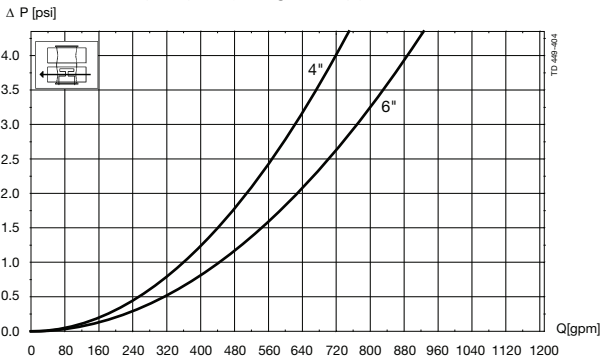

Fig. 4. Pressure drop/capacity diagram, lower body.
- From fig. 4, $\Delta p = 0.52$ psi through lower body